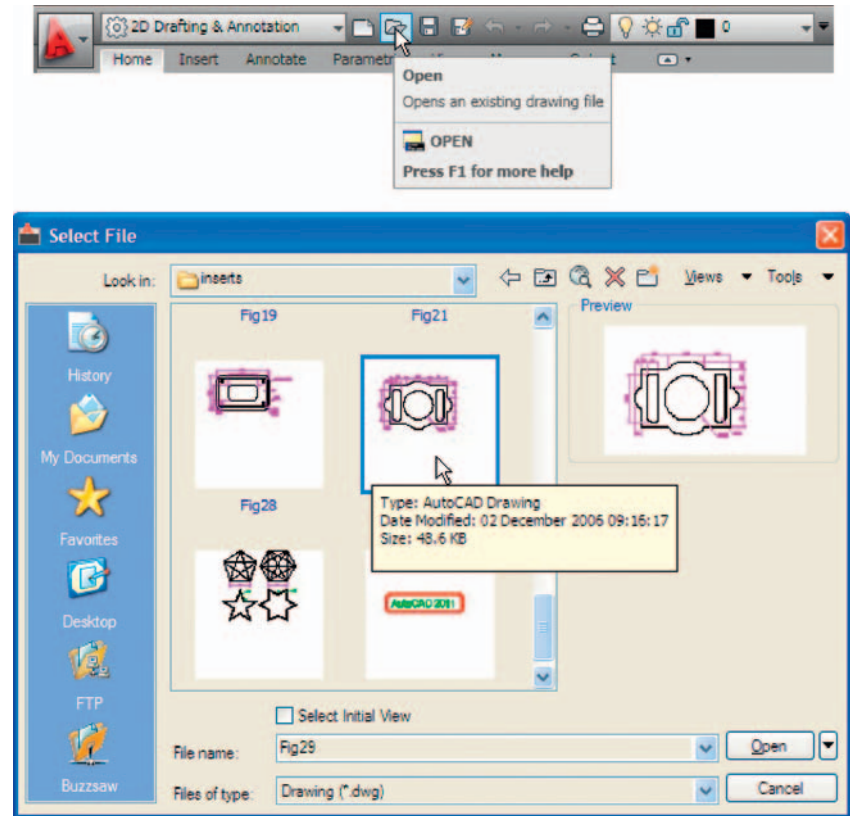

Fig. 1.9 The **open** icon in the **Quick Access** toolbar brings the **Select File** dialog on screen
**Quick Access toolbar:** The toolbar at the top right of the AutoCAD window holds several icons, one of which is the **Open** tool icon. A *click* on the icon opens the **Select File** dialog (Fig. 1.9).